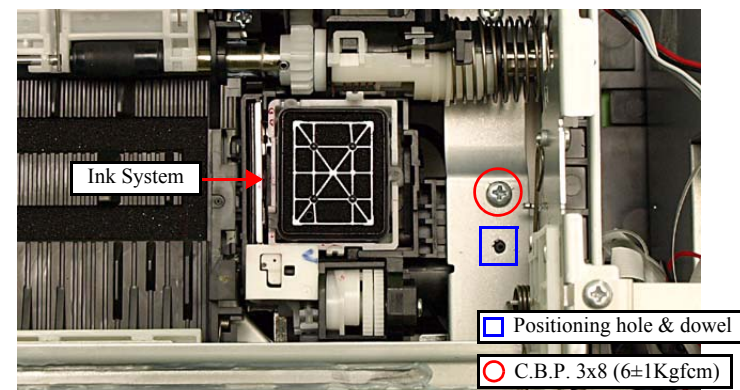

Figure 4-83. Removing the Ink System (1)
4. Align the dowel of the Ink System with the positioning hole on the Main Frame, and secure it with the screw (x1) to the Ink System.(See Fig. 4-83.)